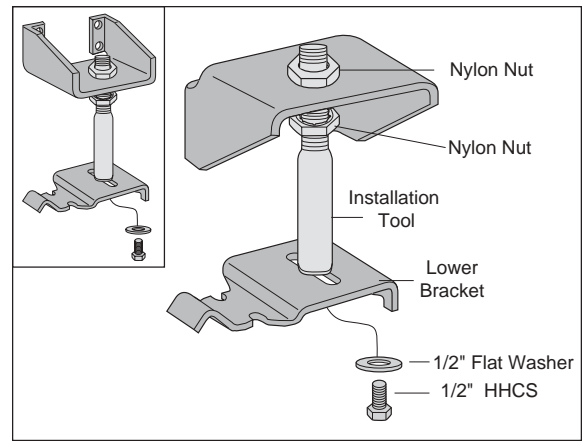

Figure 4
2. Secure the upper bracket (B) to the installation tool (D) using the provided nylon nut (F) (Figure 4).
1987 and older Chevy/GMC 4WD only: The upper bracket must be installed with the legs of the upper bracket “legs up”. Refer to Figure 4 Inset.
3. Loosely attach the tool to the lower bracket (C) using 1/2" flat washer (G) and 1/2" bolt (H). Refer to Figure 4. Leave loose for adjustment.